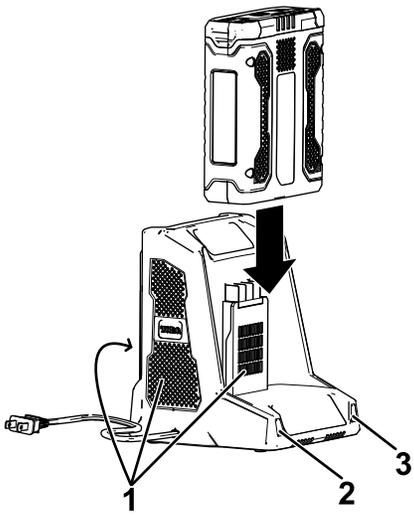

Figure 4
4. Slide the battery pack into the charger until it is fully seated (Figure 4).